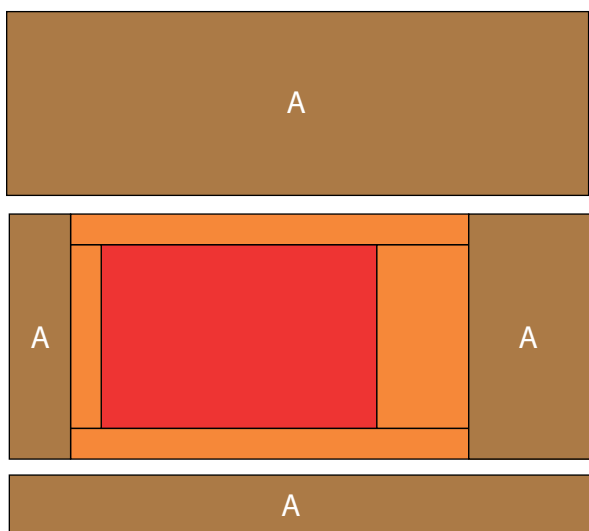

Fig. 2
2. Sew (1) 2 1/2" x 8 1/2" Fabric A strip to the left side of (1) C-Block. Sew (1) 4 1/2" x 8 1/2" Fabric A strip to the right side of the C-Block. Sew (1) 6 1/2" x 19 1/2" Fabric A strip to the top of the C-Block. Sew (1) 2 1/2" x 19 1/2" Fabric A strip to the bottom of the C-Block (Fig. 2).